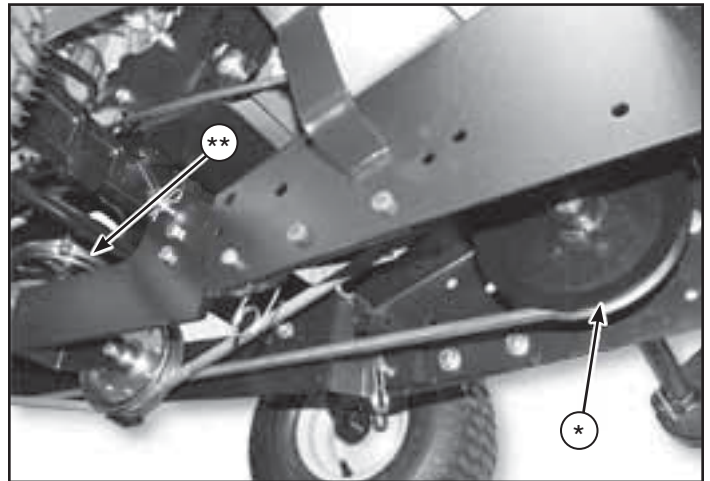

Figure 10
4. Install the drive belt onto the snowthrower drive pulley (*, Figure 10) and then onto the tractor PTO pulley (**).